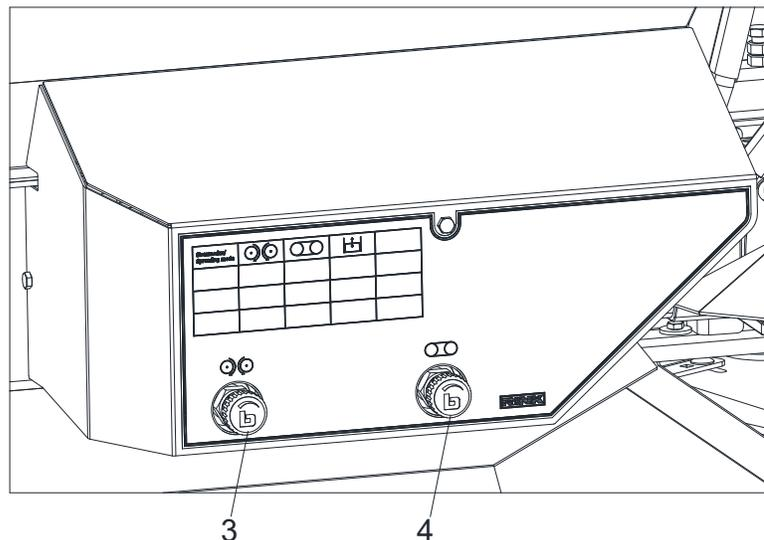

Fig. 37 Analog Flow Control (evo)
3. If necessary, set the disc speed using the rotary control for disc speed (Fig. 37/3).
5. If necessary, set the transport speed using the rotary control for conveyor speed (Fig. 37/4).